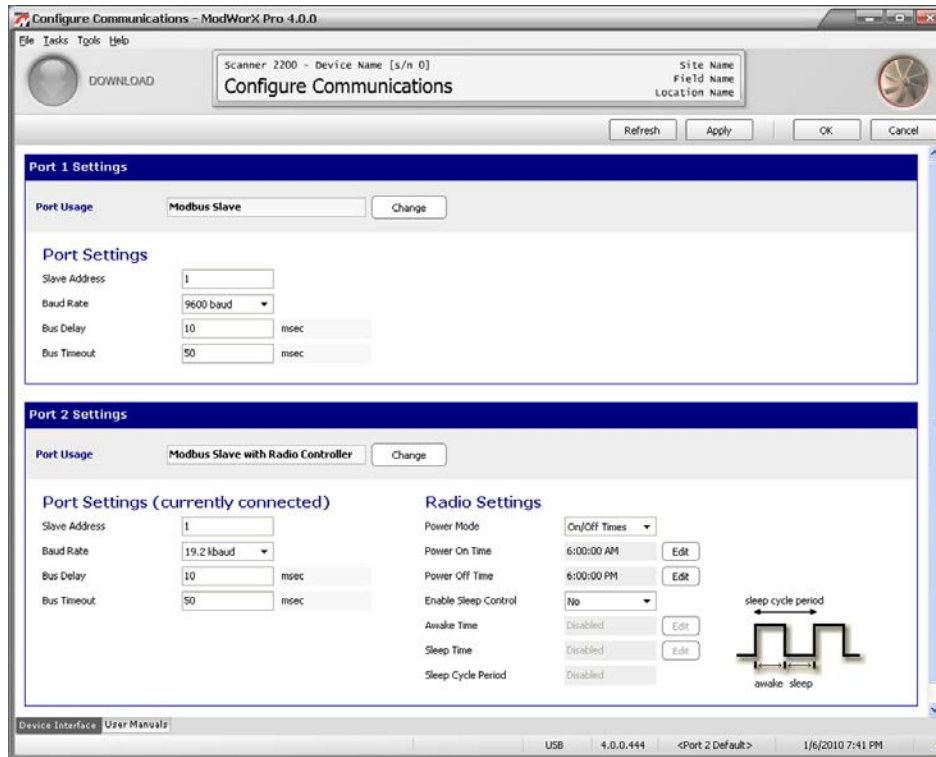

Figure 3.12
1. From the Configure Communications screen, change the Port Usage setting in the Port 2 Settings section to “Modbus Slave with Radio Controller” (Figure 3.12, page 32).